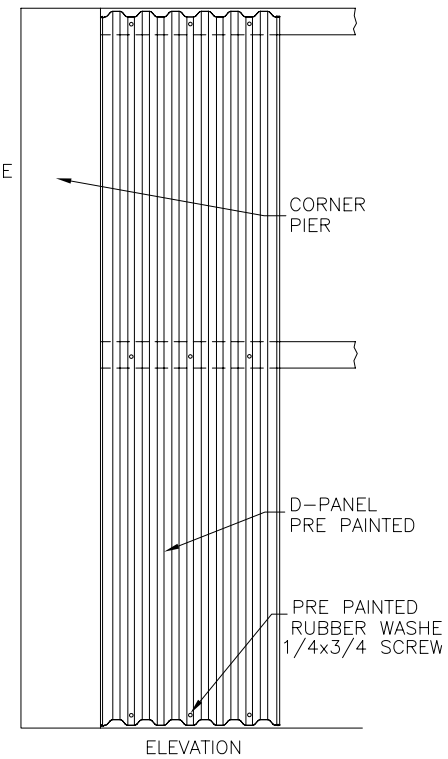

FIGURE 27
START AT ANY CORNER RECEIVING D-PANEL AND ATTACH THE FIRST PANEL (SEE FIGS. 27 & 28). REFER TO PAGE 5 FOR CORRECT PANEL LENGTHS TO USE AS PANEL LENGTH DIFFERS DEPENDING ON LOCATION. PLACE A FOAM RUBBER CLOSURE ON INSIDE OF SHEET AT THE TOP AND BOTTOM ENDS OF THE SHEET. BEFORE ATTACHING FIRST PANEL; CONFIRM PIER IS SQUARE TO FLOOR (USE A 36" CARPENTER SQUARE FOR THIS). ATTACH SHEET WITH (9) PAINTED 1/4" RUBBER WASHER SCREWS.